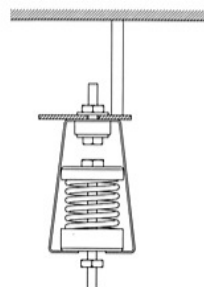

Fig.3
- 4、 Twist off nut and gasket of fixing bolt 5. (See Fig.3)